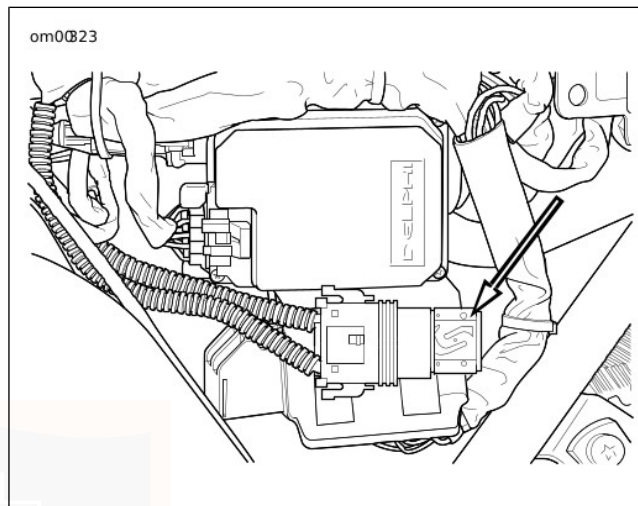

Figure 69. Maxi-Fuse Assembly
3. See Figure 69. Pull maxi-fuse from holder.
1. See Figure 69. Insert maxi-fuse into holder.